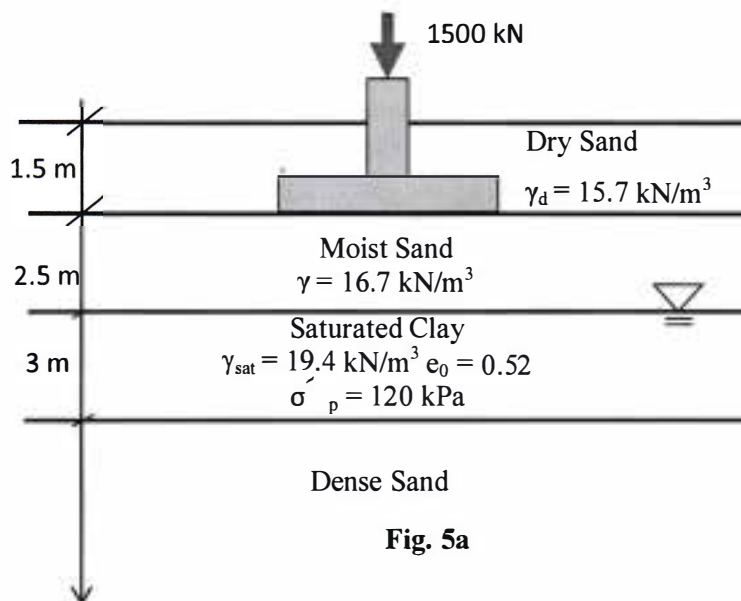
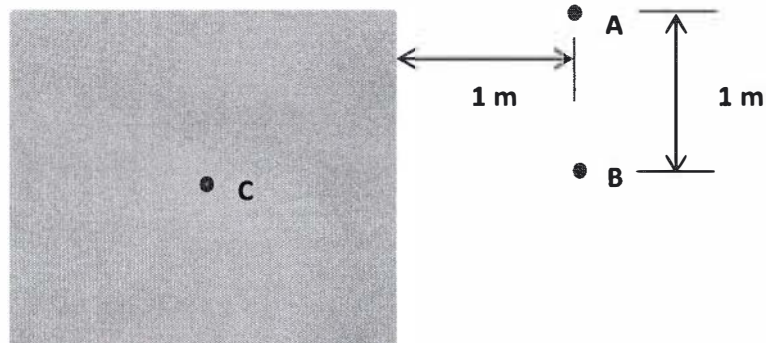

Fig. 5a
Fig. 5b
6. (i) A square footing (2.2 m x 2.2 m), in the soil profile in Fig. 5a, transmits UDL to soil below the footing base. Determine the increase in vertical stress ($\Delta\sigma$) at the mid depth of 3 m thick clay layer below points 'A' and 'B' using influence factor and point 'C' using equivalent point load method (Fig. 5b). 12